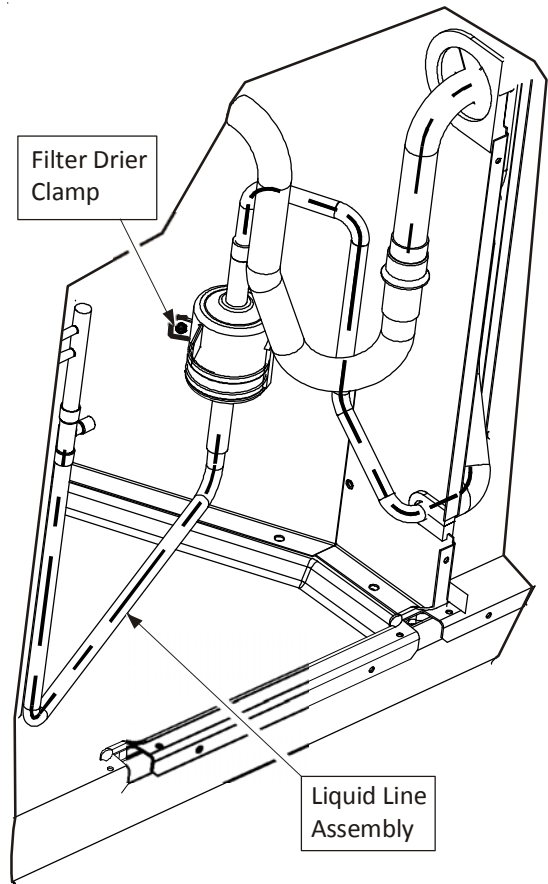

Figure 7
2. Place the filter drier clamp as shown in Figure 7. Use one #10 self tapping screw to secure the clamp to the partition panel.